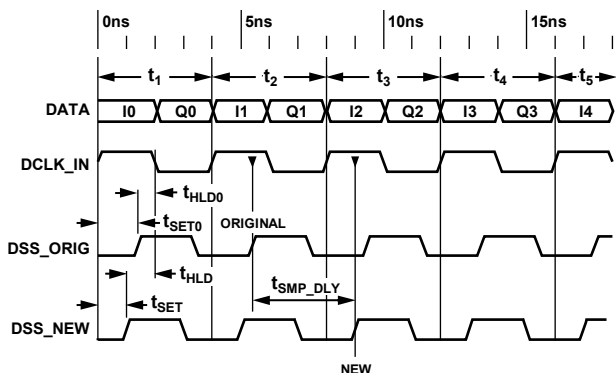

Figure 58. Digital Data Timing Calibration
6. If SEEK = 1, and SET is more than two counts higher than HLD, then your timing resembles that shown in Figure 58. Program the value of SMP to be